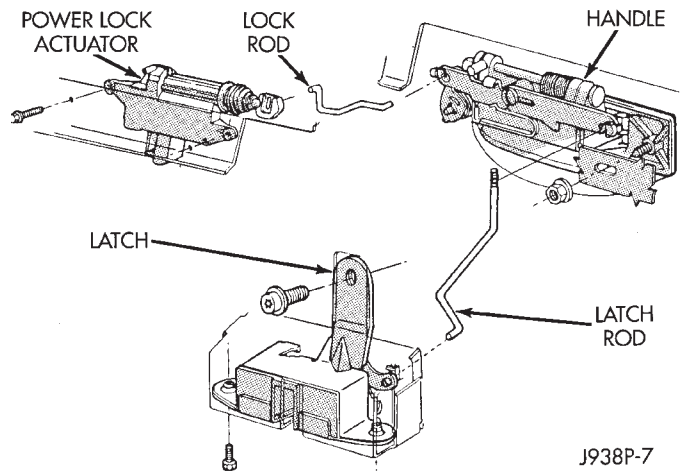

Fig. 9 Liftgate Lock Motor Remove/Install
(5) Remove the two screws securing the lock actuator motor to the liftgate (Fig. 9).